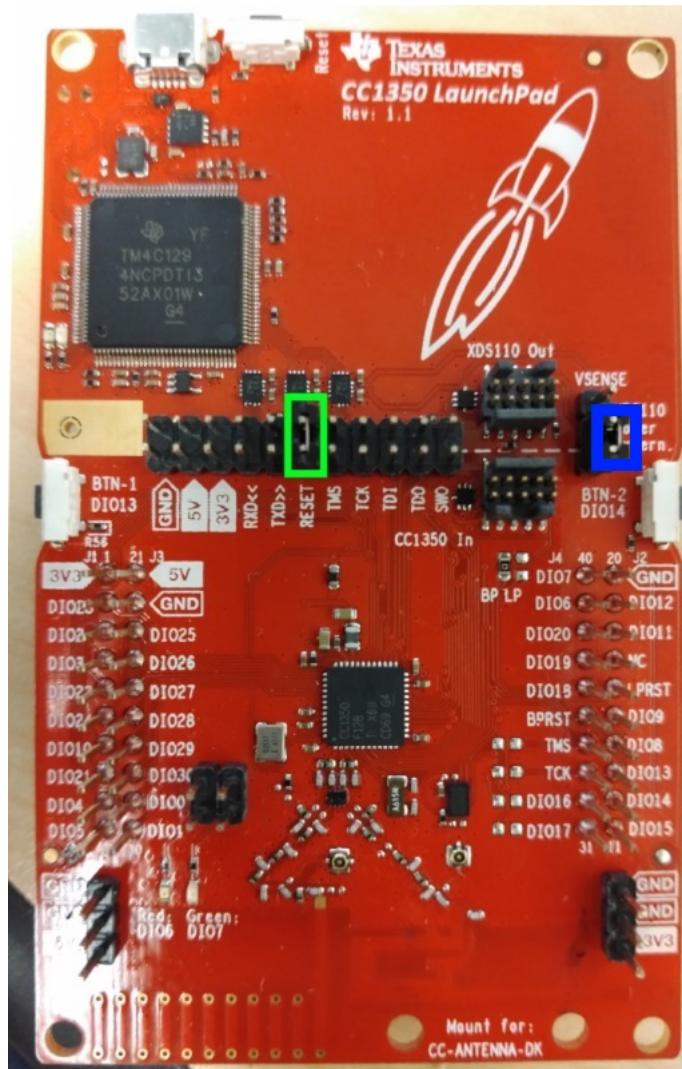

図 26. CC1350 LaunchPad™
1. Remove all jumpers at the center of the *MAC-CoP LaunchPad* except the *Reset* jumper highlighted in green. Also move the *VSENSE* jumper highlighted in blue in 図 26 to the *Extern Pwr* position.